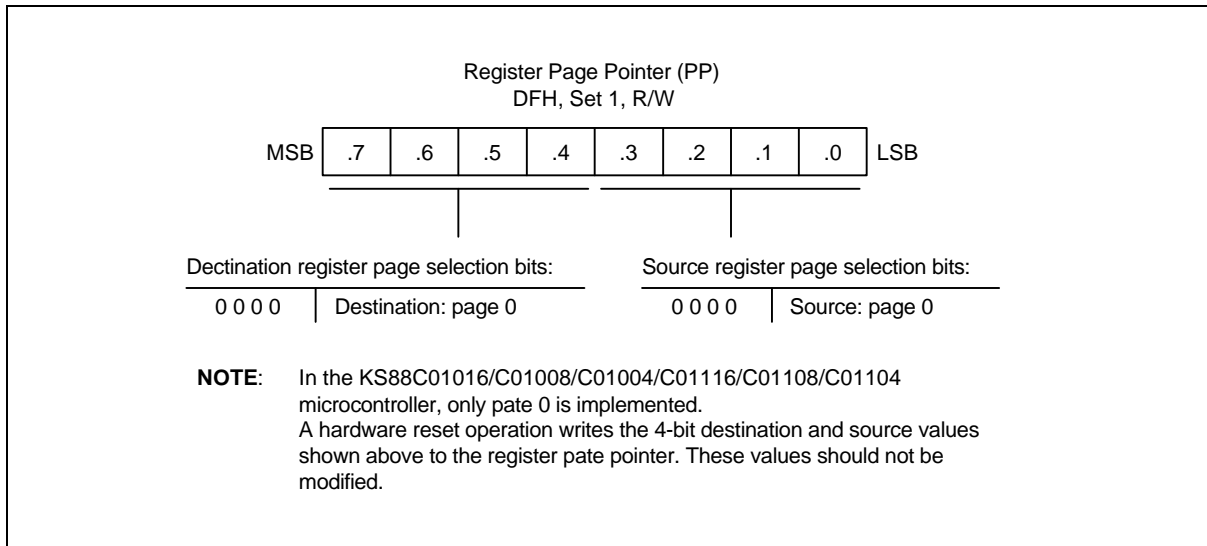

Figure 2-3. Register Page Pointer (PP)
Following a reset, the page pointer's source value (lower nibble) and destination value (upper nibble) are always '0000', automatically selecting page 0 as the source and destination page for register addressing. These page pointer (PP) register settings, as shown in Figure 2-3, should not be modified during normal operation.